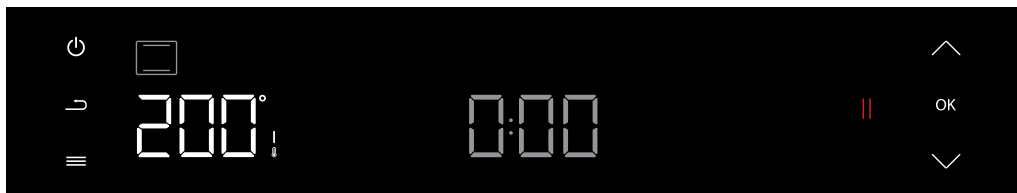

Figure 16
3. After pressing the approval (OK) button, the active setting indicator switches to the temperature indicator. (see figure 16) The desired temperature value is set within the specified limits by pressing the up (▲) or (▼) down keys. (see figure 17) Press the confirm button (OK) once to approve the desired temperature. (see figure 18)